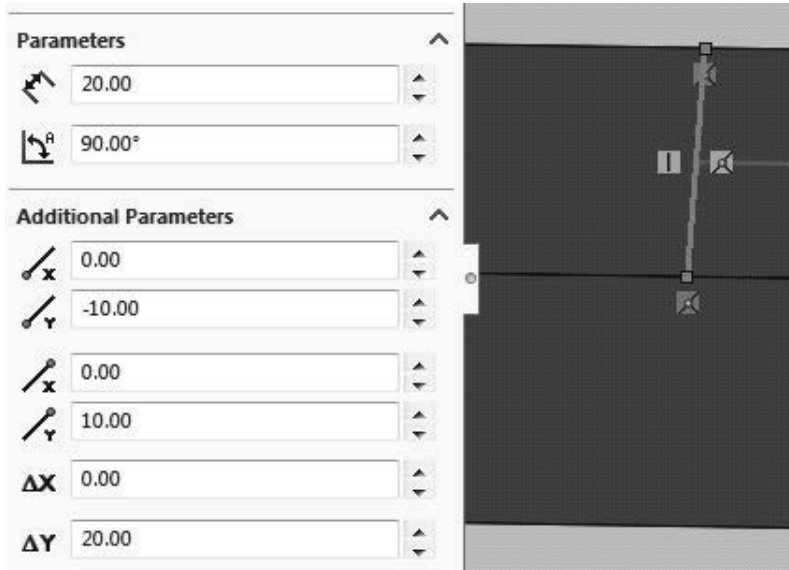

Figure 2.9 Drawing of a line in the Z-direction
9. Next, we will create a split line. Repeat step 6 once again but this time select the **Top Plane** and draw a line in the Z-direction through the origin on the lower inner surface of the extruded part. It will help to zoom in and rotate the view to complete this step. Set the **Parameters** and **Additional Parameters** to the values shown in figure 2.9 and close the dialog. Click on the **Rebuild** symbol.